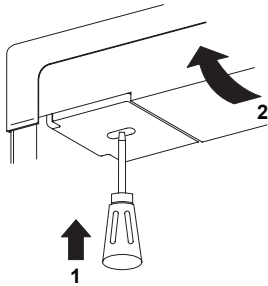

Fig. 14
- a) Remove the top decoration panel. Open the door and gently push the tabs out of the hole in the hinge with a flat blade screwdriver, (both sides), see Fig. 14.